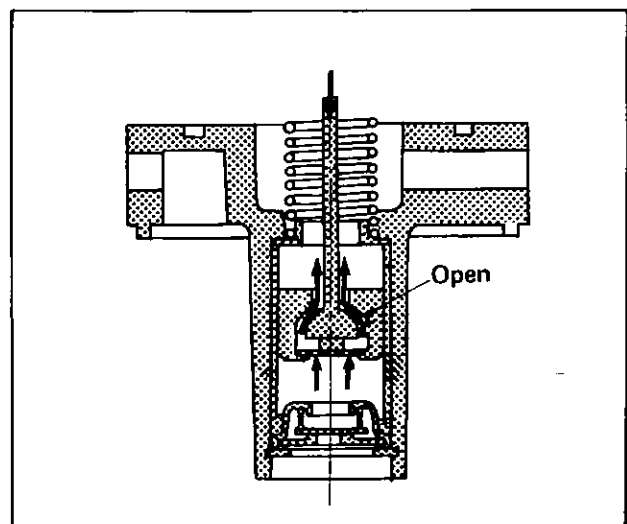
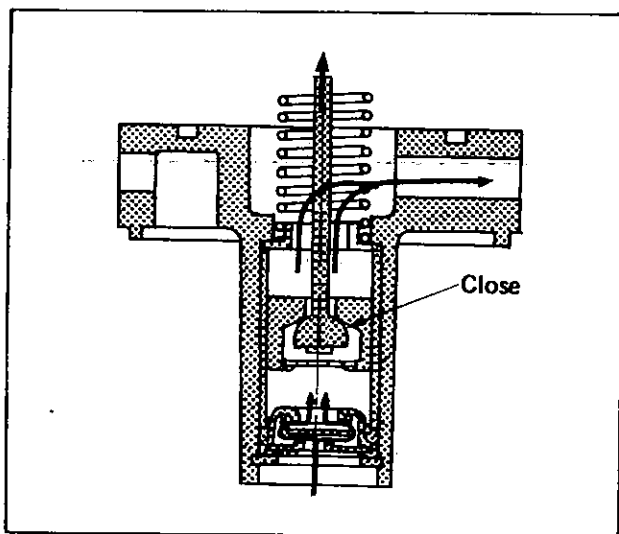

Fig. EF-10 Pump operation
Fig. EF-11 Pump operation
(1) Turning the engine switch A on makes the piston ⑫ connected to the plunger ⑩ drop very quickly against the pressure of the plunger spring ⑭. In this movement the upper portion of the inside wall of the piston ⑫ becomes open due to the reaction to its very fast drop as shown in Figure EF-10 and the inlet valve ② closes and therefore the fuel contained between the piston ⑫ and the inlet valve ② moves upward.
(2) The piston ⑫ lowered is given potential energy by the plunger spring pressure and
goes up gradually to the position held prior to the operation as the contacts A ⑦ and B ⑧ becomes disconnected. Then, as shown in Figure EF-11, the opening at the upper portion of the piston closes as the its upper inside wall contacts with the spherical surface of the connecting rod, and the inlet valve opens, thus allowing the fuel flow into the cylinder simultaneously with its discharge.